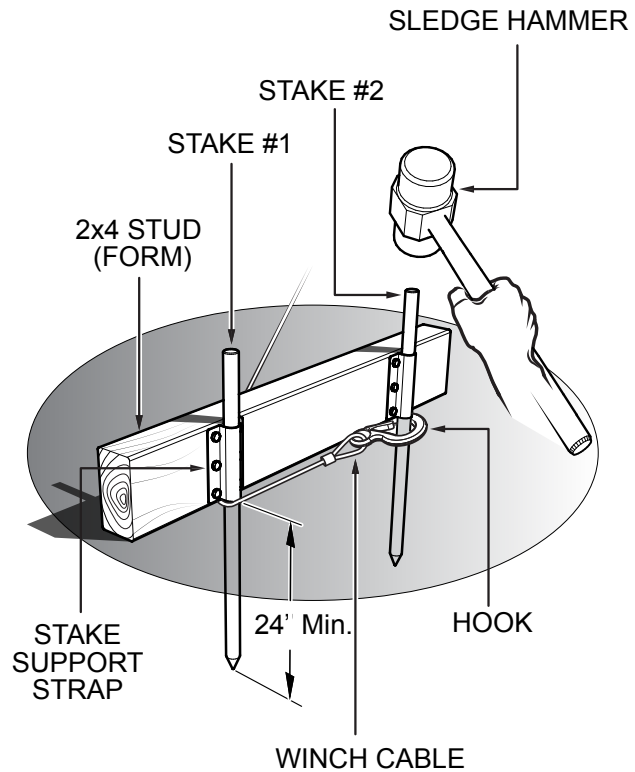

Figure 18. Attaching Winch Stakes
Figure 18 illustrates the correct method of attaching the winch cables to the form stakes. If the winch cables are not attached to the form stakes correctly, the cables could snap loose causing severe bodily harm and damage to the equipment.
2. Loop the hook end of the winch cable around the first stake from the end of the form as shown in Figure 18. Make sure you go underneath the form.
DO NOT hook winch cables to a stake driven directly into the ground. Stake should be installed as shown in Figure 18. The stake can tilt and allow winch cable under tension to snap and break free causing severe bodily harm and damage to equipment.